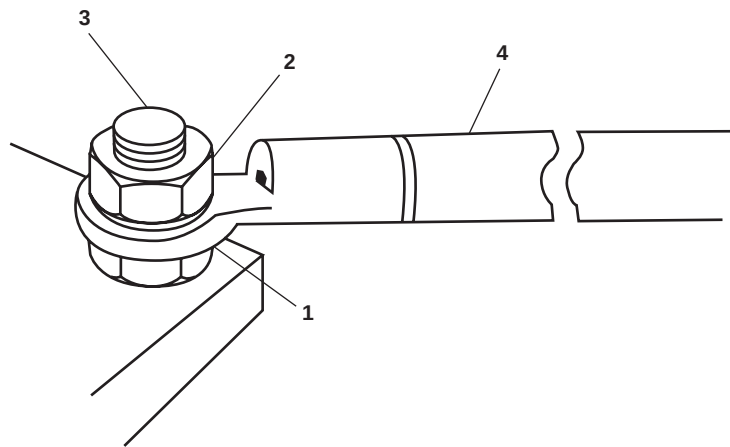

Figure 1. Typical Wire Terminal
1. Use a multimeter to check for voltage at the wire terminals (figure 1, item 1). If voltage is present, ensure that the proper circuit breakers are set to OFF, locked out, and tagged out (FM 55-502). If no voltage is present, continue with the procedure.
4. Remove the nuts (figure 1, item 2) that secure the wire terminals (figure 1, item 1) to the post (figure 1, item 3), and remove the wire (figure 1, item 4).
5. Follow the wire (figure 1, item 4) to the opposite end, freeing it from the vessel's structure as required.
6. Remove the nuts (figure 1, item 2) that secure the wire terminals (figure 1, item 1) to the post (figure 1, item 3), and remove the wire (figure 1, item 4) at the opposite end.
2. Install the new wires (figure 1, item 4) along the same path as the old wires, and secure them in the same manner as the old wiring assembly.
3. Install the nuts (figure 1, item 2) that secure the wire terminals (figure 1, item 1) to the post (figure 1, item 3) at both ends of the wire.